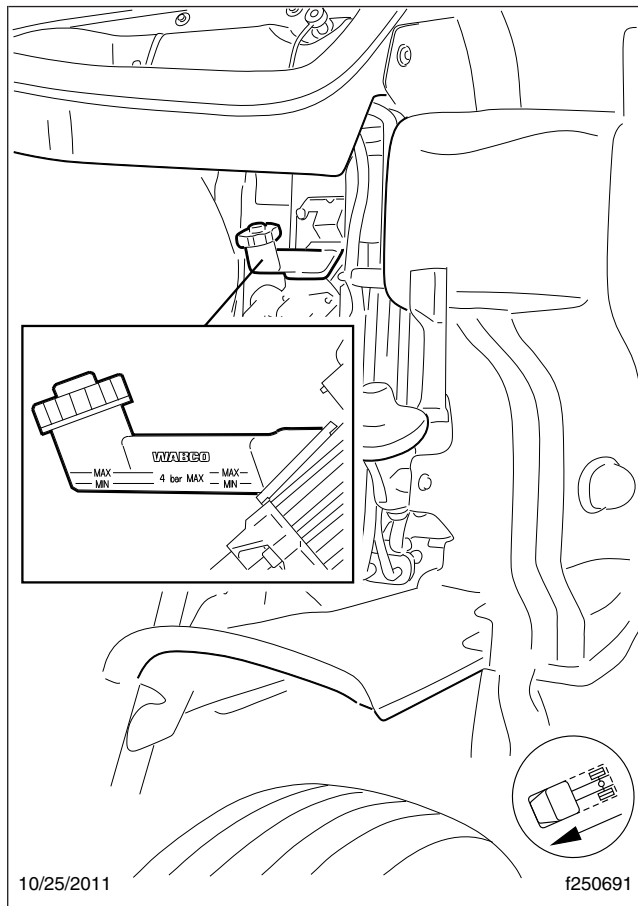

Fig. 5, Reservoir, Hydraulic Clutch Control
If the fluid level is below the MIN line, fill the reservoir with new DOT 4 brake fluid from a tightly sealed container until the level reaches the MAX line. See Fig. 5.
3. Remove the reservoir lid (see Fig. 5) and install the pressure bleed adaptor on the reservoir.
2. Remove the reservoir lid and fill the reservoir (see Fig. 5) with new DOT 4 brake fluid from a tightly sealed container.